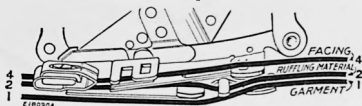

FIG. 65. CORRECT POSITIONS FOR THE MATERIALS
- (1) Insert the material to be ruffled between the two blue blades **Line 2, Fig. 65.**
- (2) Place the material to which the ruffle is to be attached under the separator blade **Line 1, Fig. 65.**
(3) Place the facing material over the upper blue blade **Line 4, Fig. 65.**